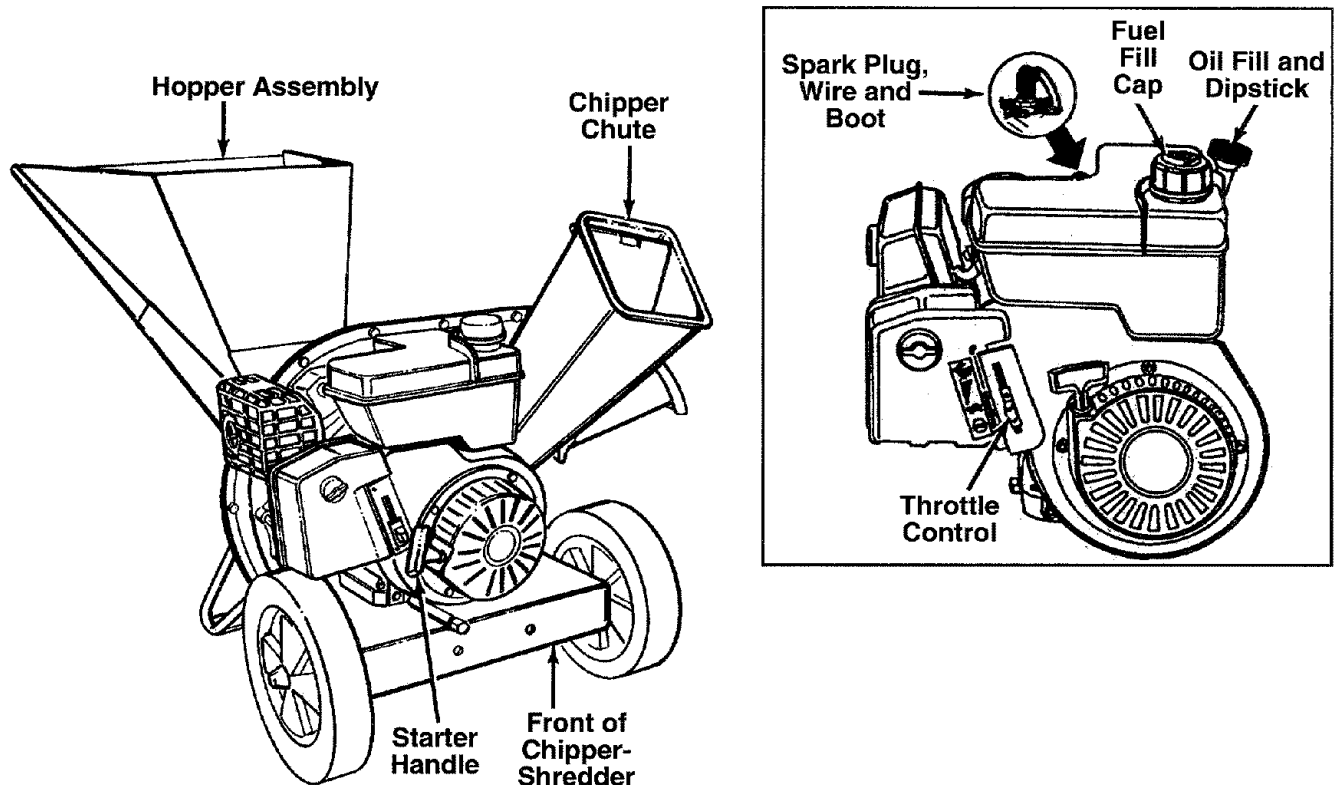

FIGURE 6.
**NOTE:** To determine right and left hand sides of your chipper-shredder, stand behind the unit with the engine the farthest away from you. See figure 6.
**STARTER HANDLE**—Used to manually start the engine. See figure 6.
**THROTTLE CONTROL**—Permits selection of fast or slow engine speed, and is used to stop the engine. See figure 6.
- Move throttle control lever to STOP position. See figure 6.
- Disconnect spark plug wire and move away from spark plug to prevent accidental starting while equipment is unattended. See figure 6.